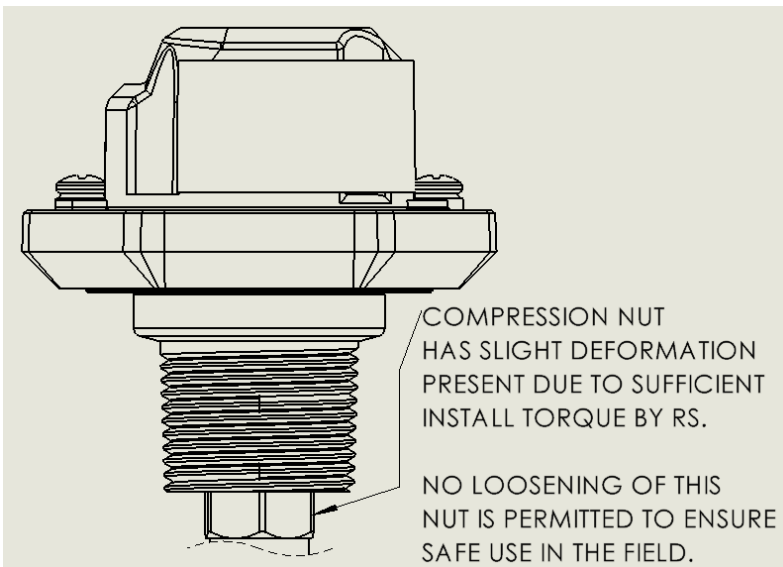

Figure 5: Compression Nut Condition Due to Rochester' Assembly Process with Warning of Its Loosening
4. Figure 5 below notes the condition of the as supplied probe and its compression nut condition. The compression nut shall not be tampered with in anyway to ensure safe use in the field.